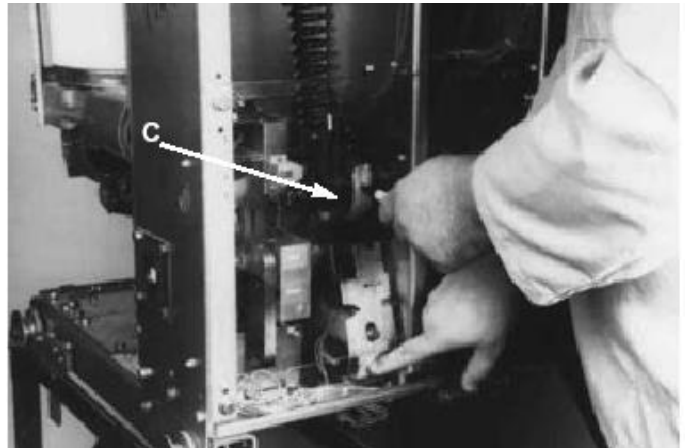

Figure 6-12 Manually Closing Circuit Breaker with Marker in Hole “C”.
General Information: The CloSure™ Test can be performed on the VCP-W, VCP-WR, VCPW-ND, DHP-VR, W-VACR, and W-VAC lines of vacuum circuit breakers Refer to Table 6.4 a for list of circuit breakers. If the CloSure™ travel obtained is as specified, the mechanism performance is satisfactory. If the CloSure™ travel does not conform as shown in Figure 6-12, contact Eaton for further information. (See Step 13).
Step 8 - While holding the marker tip on the tape, close the breaker (Figure 6-12).